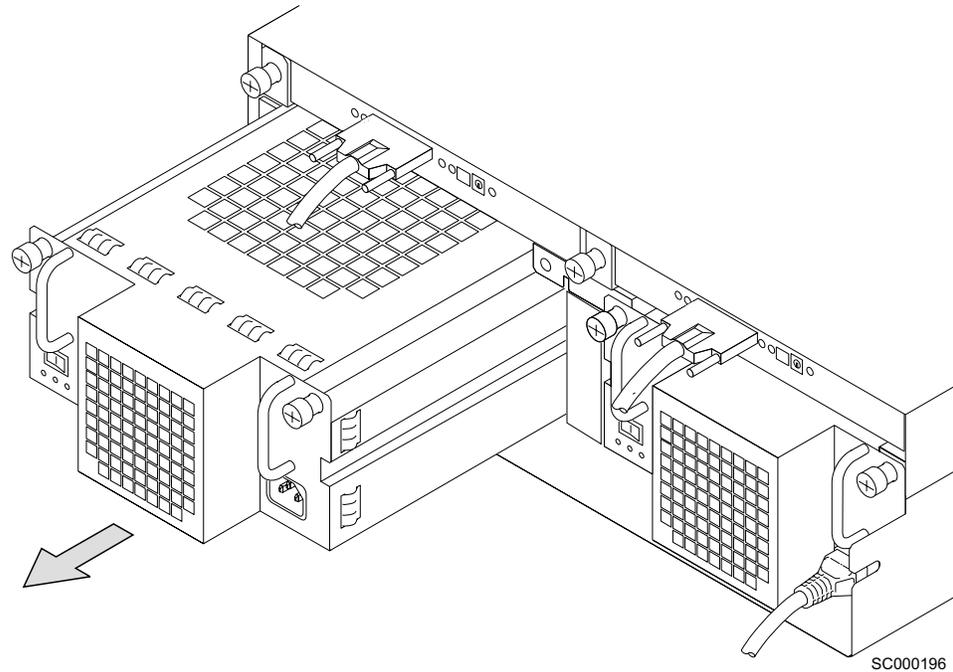

Figure 54. Removing the fan-and-power-supply assembly
4. Pull the fan-and-power-supply assembly from the 2104 Model DS4. See Figure 54. The speed of the other fan in the 2104 Model DS4 might increase.